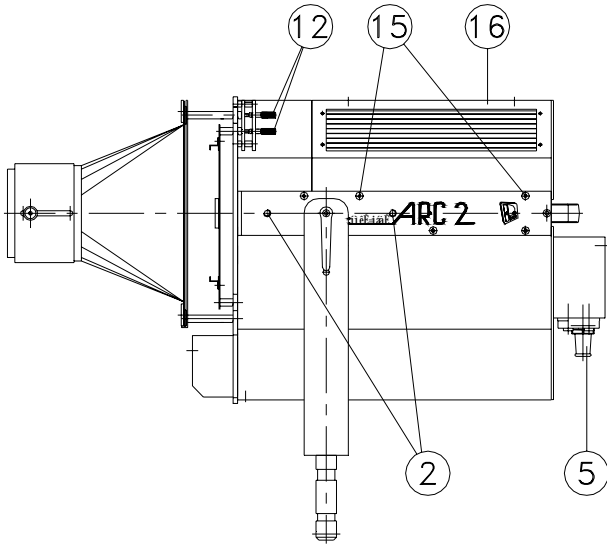
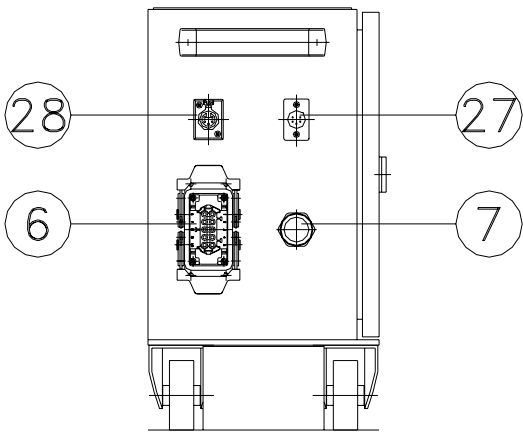

Figure 2
Figure 6
6) Front condenser lens (fig.2/ 8)
After loosening the four screws (fig.2/ 9) and rotating the front condenser lens (fig.2/ 8), the lens can be removed. The lens is to be refitted in the reverse order.
There are three groups of four recesses arranged in a square (fig.2/ 11.1, 11.2, 11.3) in the front panel (fig.2/ 10) to receive accessories. After unscrewing the two corresponding knurled screws (fig.1/ 12), the accessory fitting adapters (e.g. (fig.6/ 29)) are slid into the recesses (fig.2/ 11.1, 11.2, 11.3), pushed downwards so that the accessory “engages”, then fix into place with the knurled screws (fig.1/ 12).
The slide carrier (fig. 6) must be located in the recesses (fig.2/ 11.3). For adjusting the slide to given edges in case of oblique projections, open the knurled screws (fig. 6 / 32), turn the twisting plate and fix it in the desired angle position.
In the case of oblique projections it may be a problem to get an allover sharp projection. Following old optical rules you are able to adjust the projection by canting the slide out of the right angle. Therefore use the provided 4 knurled screws (fig.6 / 33). Try the effect until it fits. Depending on the focal length, the projection distance and the setting, it is possible to adjust angles up to more than 45° from the parallel standard projection.
Locate the objective adapter (fig.8) in the recesses (fig.2/ 11.2).